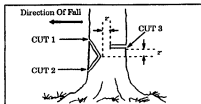

Figure 20
NOTE: If the tree has large buttress roots, remove them before making the notch. Cut into the buttresses vertically, then horizontally. Figure 20.
- Make the notch cut. Refer to Figure 20.